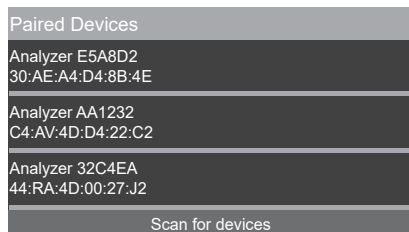

Figure 36. Select a Device/Analyzer to connect
- From the drop-down list, tap the correct analyzer to connect to. See Figure 36.